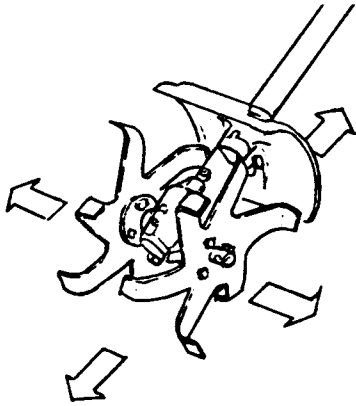

Figure 9
1. The cultivator attachment of each model can cultivate crops and be moved to any direction. (Figure 9)